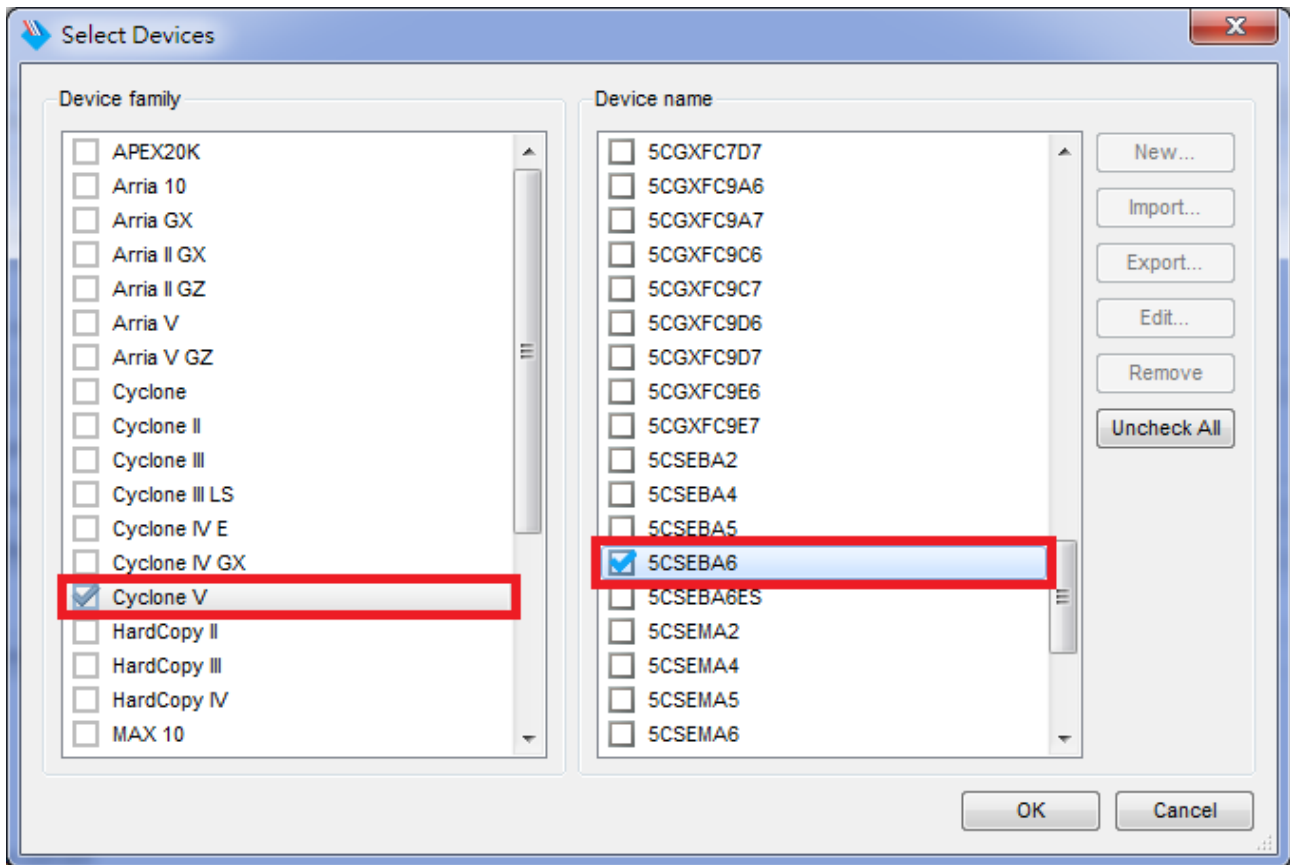

Figure 8-5 “Select Devices” page
11. The **Select Devices** page will appear, please select the targeted FPGA to be programed into the EPCS, as shown in **Figure 8-5**.